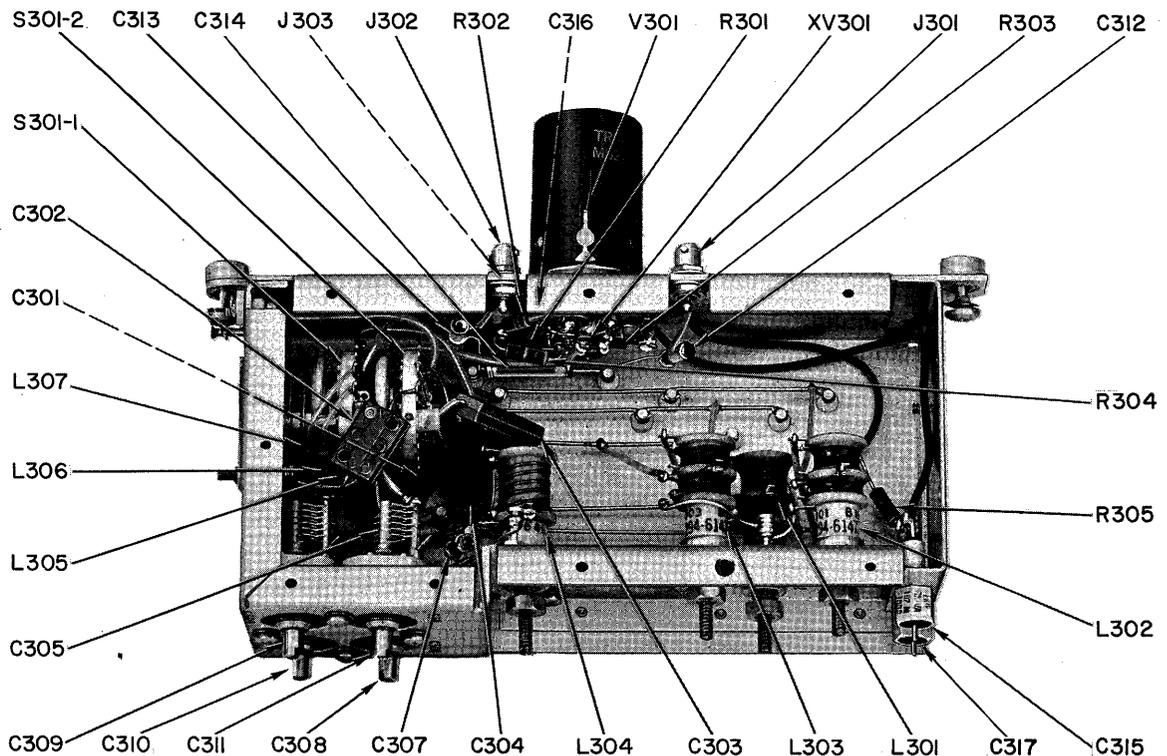

Figure 5-36. High-Frequency Oscillator, Location of Parts
b. ACCESS.—The HF oscillator is located in the lower converter deck. Raise the upper deck to reach the top of the oscillator, or tilt the entire converter drawer for access to the bottom of the oscillator section. Figure 5-36 shows the location of parts.
- (1) Seating of tube V301 in its socket
- (2) Cable connections at J301 and J302
- (3) Soldered connections at chassis feed-through terminals.